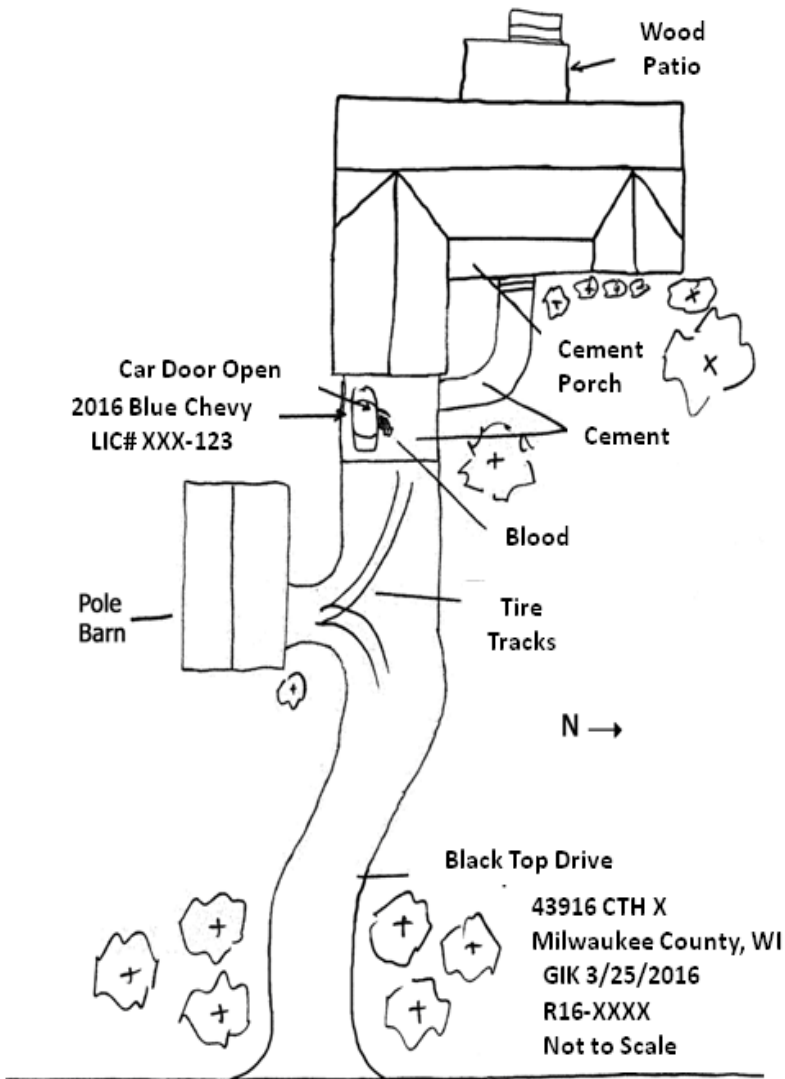

Fig. 4-1 Overview sketch of an exterior crime scene.
- Overview sketch – consists of a bird’s-eye-view or floor plan sketch of the scene. This is the most common type of sketch and consists of items on the horizontal plane (see Figure 4-1).